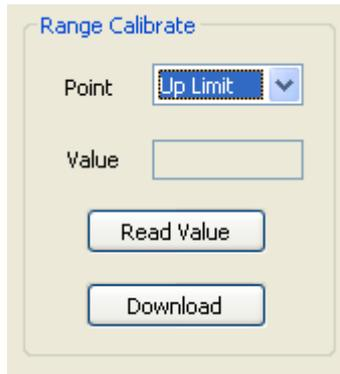

Figure 5.6 Scale Calibration-calibration range upper limit
- ② The transmitter adds the standard upper limit pressure. After the pressure is stable, select the calibration point "upper limit", as shown in Figure 5.6, click "Get the current value", display the calibration data in the "correction value", click "Download", then the actual pressure output is the upper range pressure value, and the current output is 20 mA;